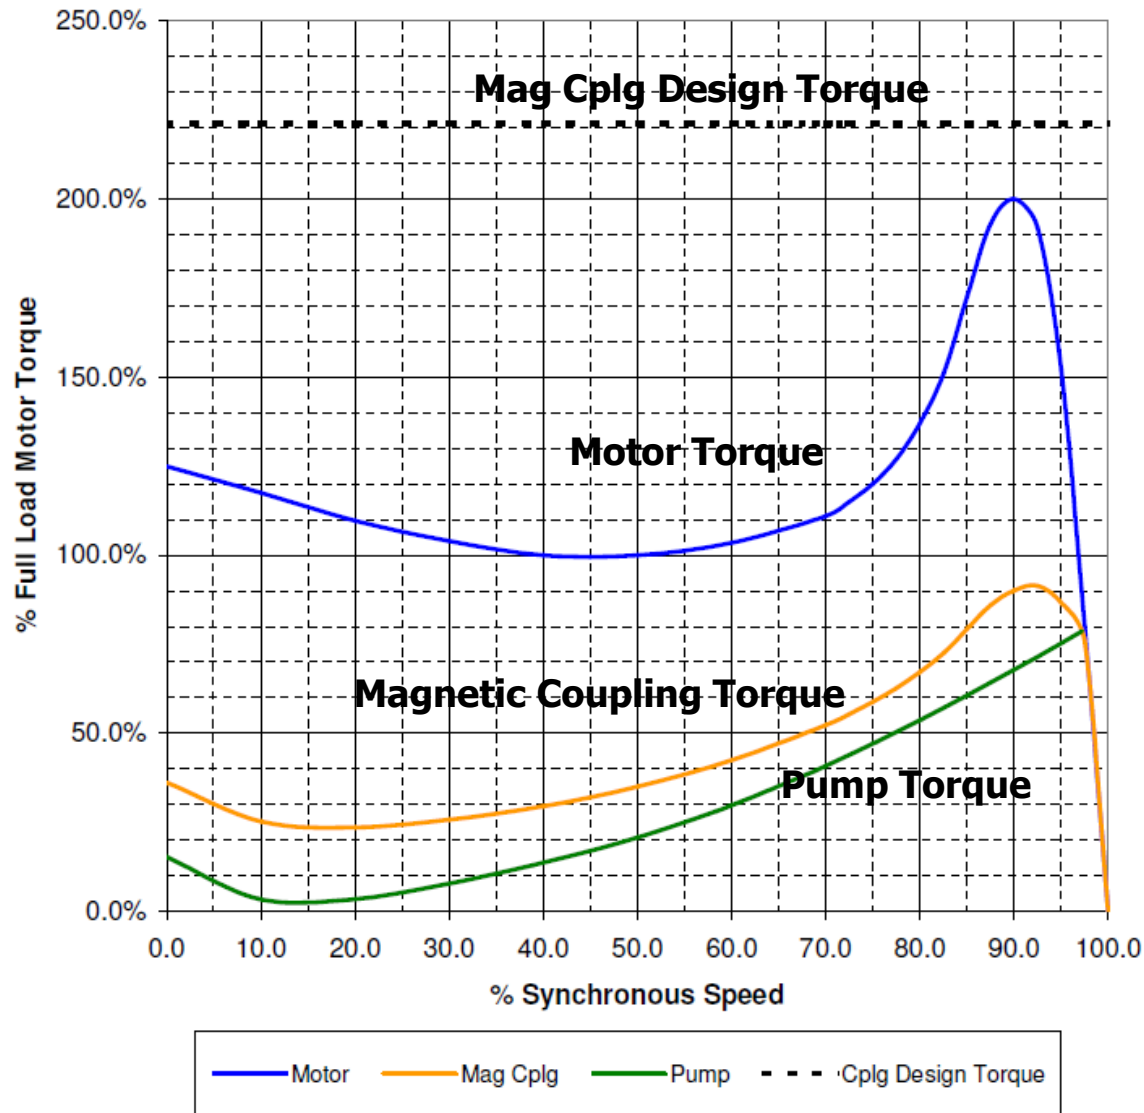

Figure 9. – Speed Torque Curve
- (•) Torque/Speed curve can be supplied per Figure 9.